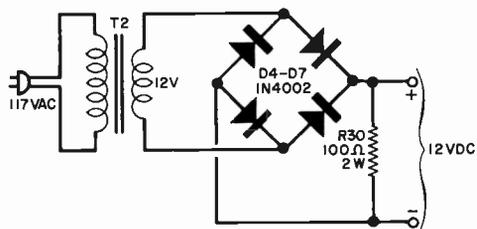

Fig. 4. This simple power supply can be used to power the receiver. No filter is shown as this is provided by components mounted on the PC board.
**Power Supply and S-Meter.** Any type of 12-volt dc power supply may be used with the receiver. One suitable circuit is shown in Fig. 4. Note that no filtering is shown since there are filters on the receiver PC board.
**Applications and Use.** To test the speed of a camera shutter with the Time-Period instrument, a high-speed photo pickoff of the type shown in Fig. 4 is required. Note that the pickup device is a photo Darlington because of its rapid response to stimulus. Do not attempt to substitute a cadmium-sulfide cell in place of the photo-Darlington pickup since such devices respond far too slowly.
The same pickoff circuit in Fig. 4 can also be used as an input for start-stop applications, such as timing a lap in a race. In this
Fig. 4. Photo pickoff circuit of type used with Time-Period plug-in to measure camera shutter speed uses photo Darlington as transducer. Do not substitute a photo resistor for high-speed L14B Darlington.